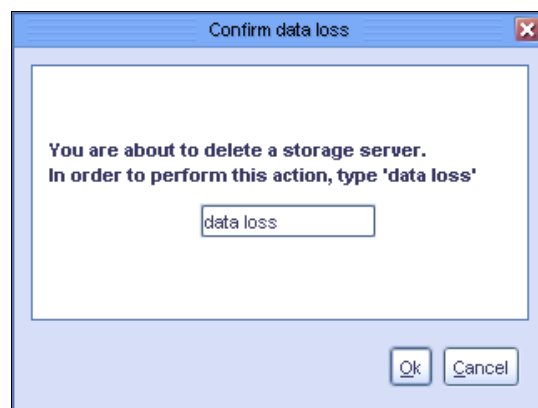

Figure 5-85 Confirm data loss window
3. Enter "data loss" to confirm the operation (Figure 5-85).